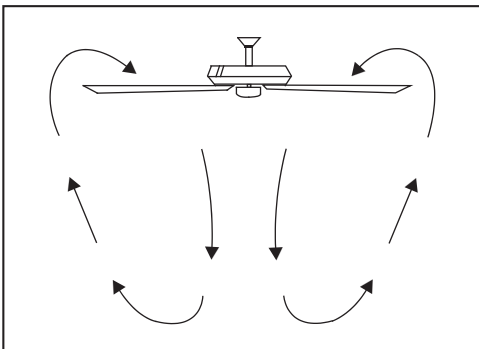

Figure 24
**Warm weather** - (Counter-Clockwise direction) A downward air flow creates a cooling effect as shown in Figure 24. This allows you to set your air conditioner on a higher setting without affecting your comfort.